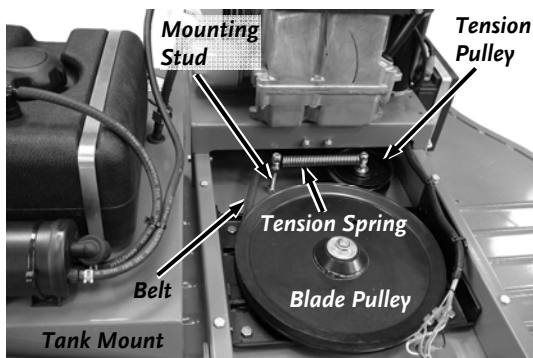

Figure 28
6. Carefully lift and set the Fuel Tank Mount to the Fuel Line side of the Engine (right hand side) (**Figure 28**).
11. To install the new Belt, follow the above procedure in the reverse order making sure that the Belt is on the inside of the Tension Pulley (**Figure 28**).